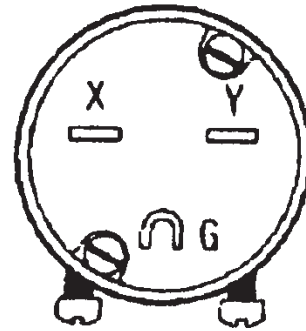

Figure 1-8
3. Connect the power cord (shown in Figure 1-8) to the power socket.